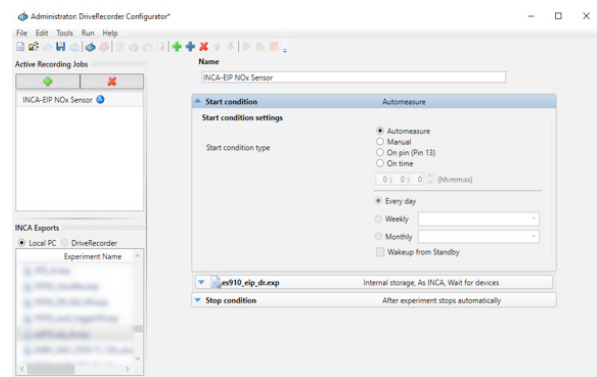

Fig. 5
- set the Start condition as Automeasure (Fig. 5)